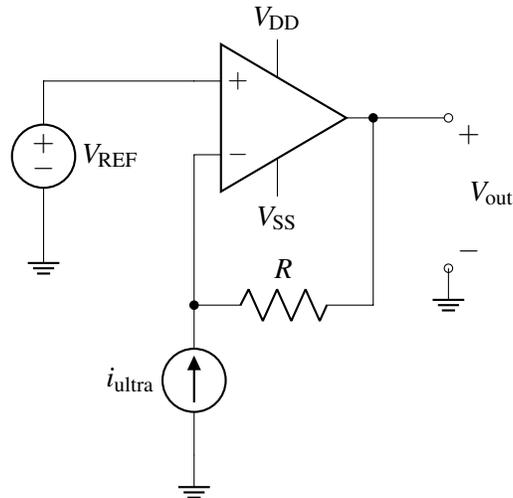

Figure 2: Transresistance sensor circuit
- (a) (4 points) Calculate the output voltage, V_{out} , of the transresistance sensor circuit shown in Fig. 2, as a function of the reference voltage, V_{REF} , the sensor input current, i_{ultra} , and the resistor, R , when an ultrasonic wave hits the sensor. Clearly show all your work and justify your answer. Writing only the final expression will not be given full credit.